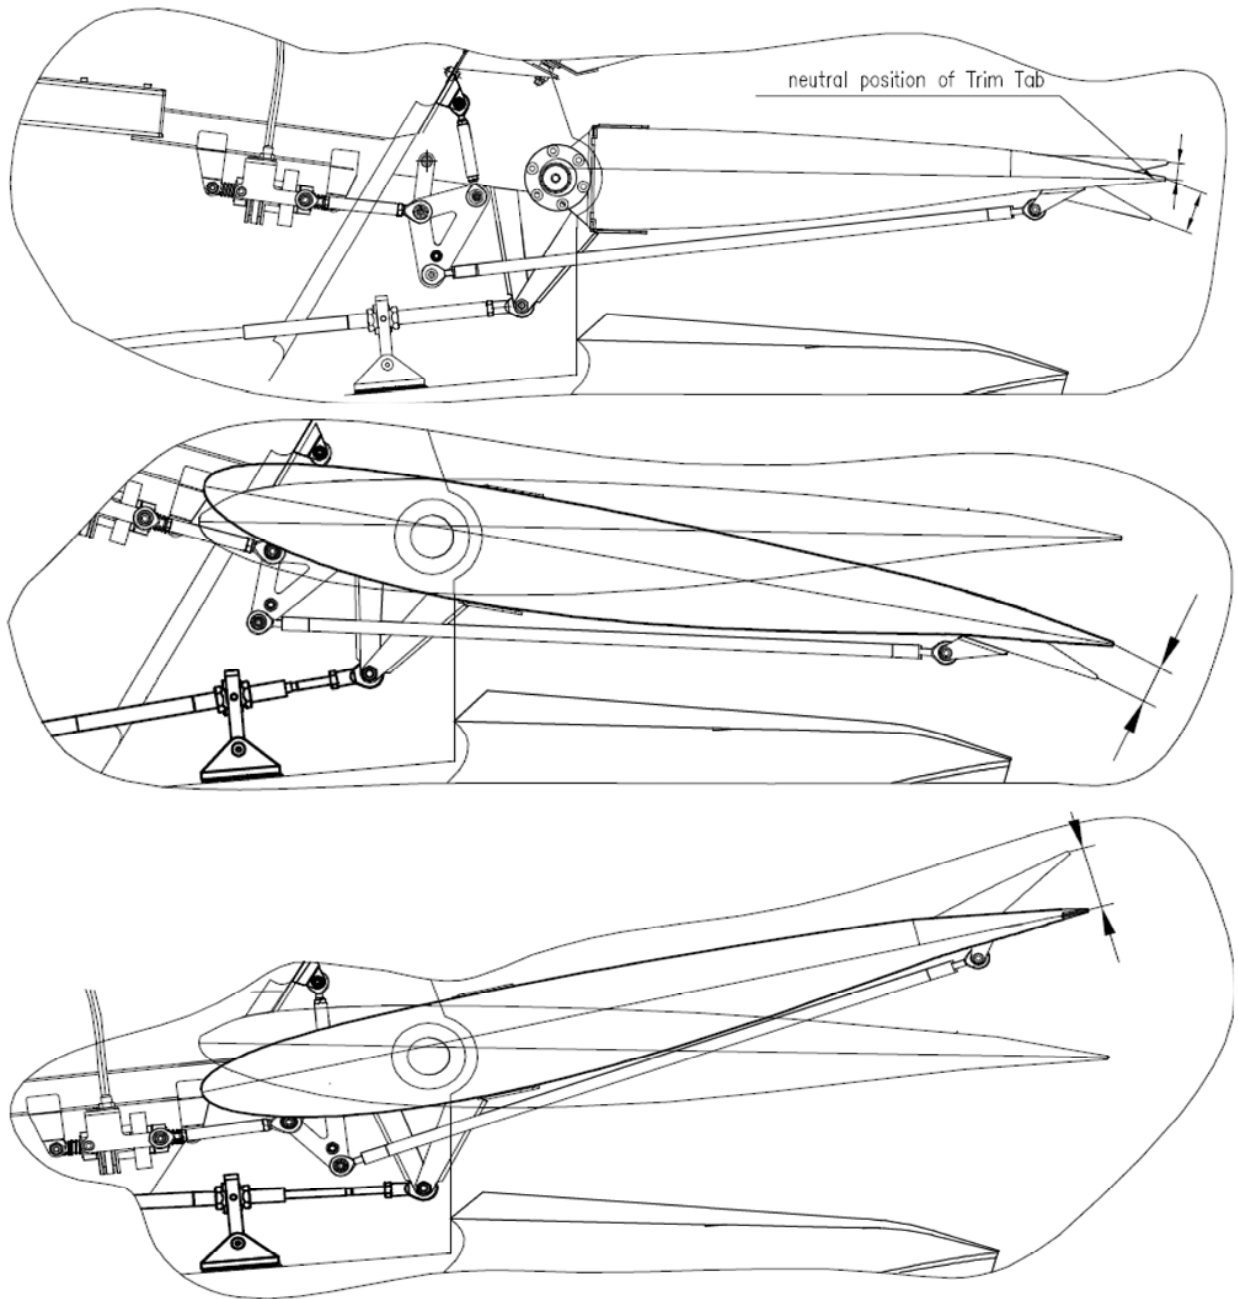

Fig. 27-40-14
B. Measuring of Trim Tab Deflection (Fig. 27-40-14).